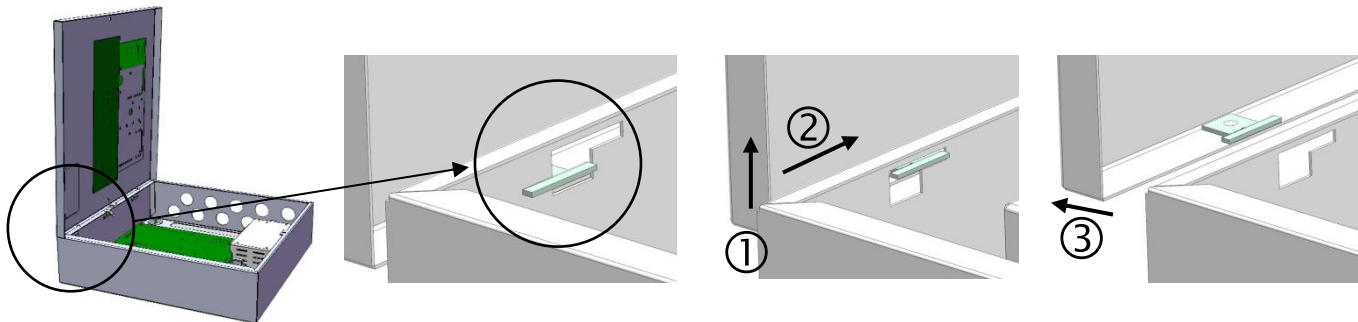

Figure 4
- Remove the front cover as dismount the side hinges first (Figure 4). Do not remove the cables from the terminals on the indication PCB, situated on the back side of the front cover!